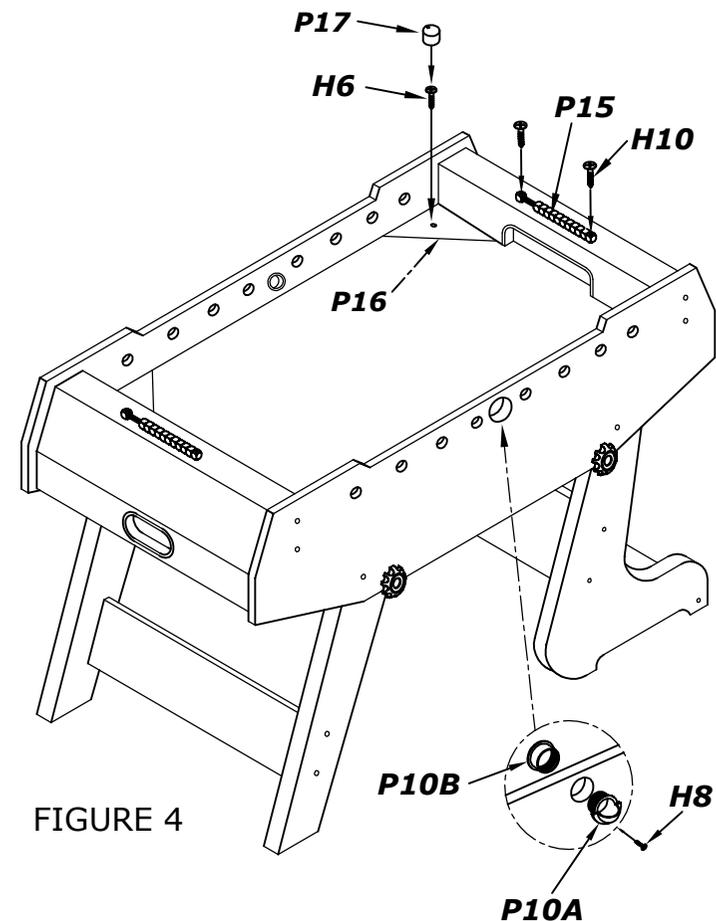

FIGURE 4
- Attach the ball entry cup **P10A** and ball entry cup socket **P10B** to the side panel using screws **H8** as shown in **FIGURE 4**.
- Attach the scorer **P15** to the end panel with **H10** as shown in **FIGURE 4**.